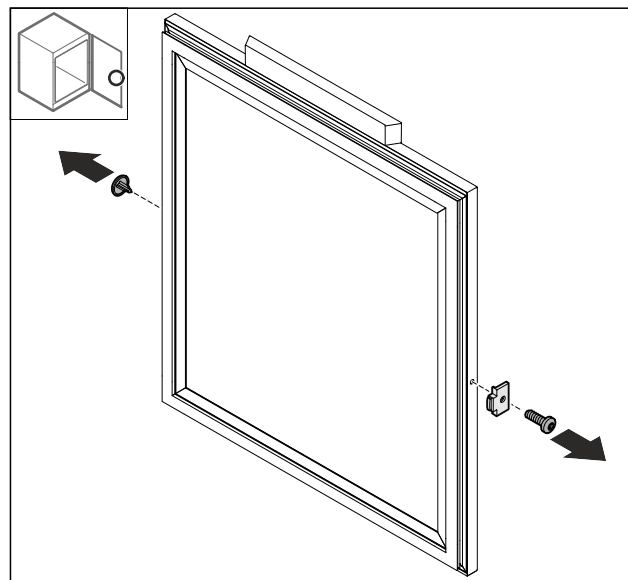

Fig. 47
- ▶ Remove the Fig. 47 (1) cover.
- ▶ Pull off the door stopper Fig. 47 (2).